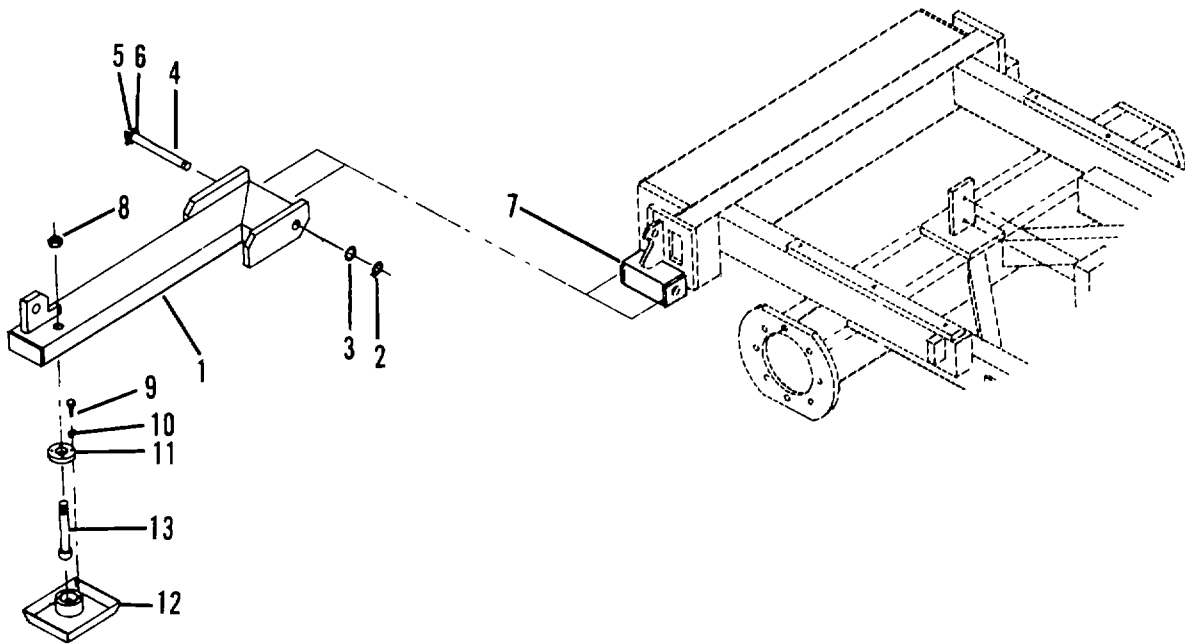

Figure 4-27. Stabilizer Assembly.
- (1) Support stabilizer (1, Figure 4-27) with a suitable hoist and sling assembly.
- (2) Remove retaining ring (2), and washer (3).
- (3) Drive retaining pin (4) toward opposite retaining ring. Remove pin with retaining ring (5) and washer (6).
- (4) Remove stabilizer (1) from frame member (7) with hoist and sling assembly.
- (5) Remove nut (8) and pad assembly.
- (6) Remove four capscrews (9) and washers (10) securing stud cover (11) to pad (12).
- (7) Remove stud (13) and cover (11).